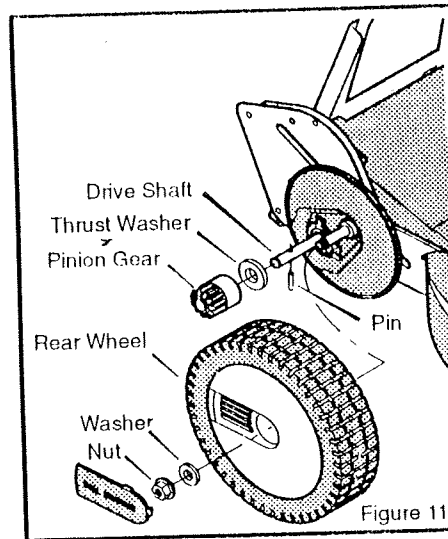

Figure 11
- Remove the rear wheel and the pinion gear (Figure 11).